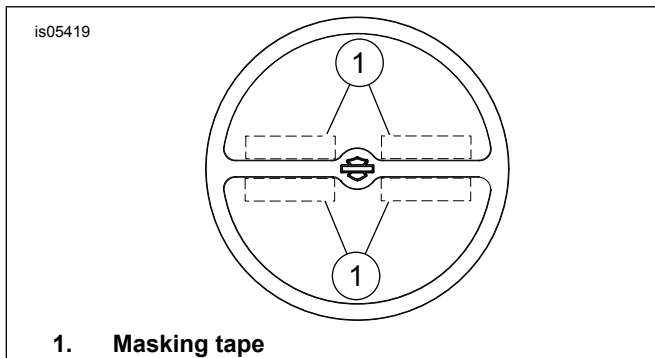

Figure 2. Speaker Grille Cover
5. See Figure 2. Apply 4 pieces of masking tape (1) directly to the speaker grille above and below the trim ring crossbar and on each side of the Bar & Shield. This will be the installation template.